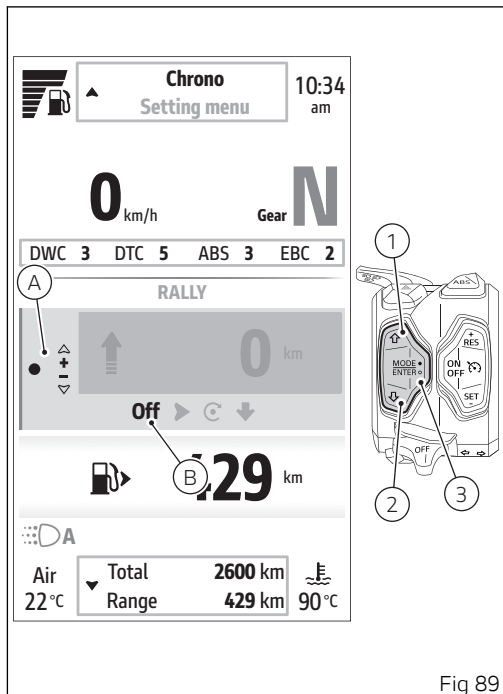

Fig 89
- If the trip master is deactivated, "Off" is displayed (B, Fig 89). Long press the ENTER button (3) to enable it.
- If the trip master has already been activated previously, "On" is displayed (C). Long press the ENTER button (3) to disable it.